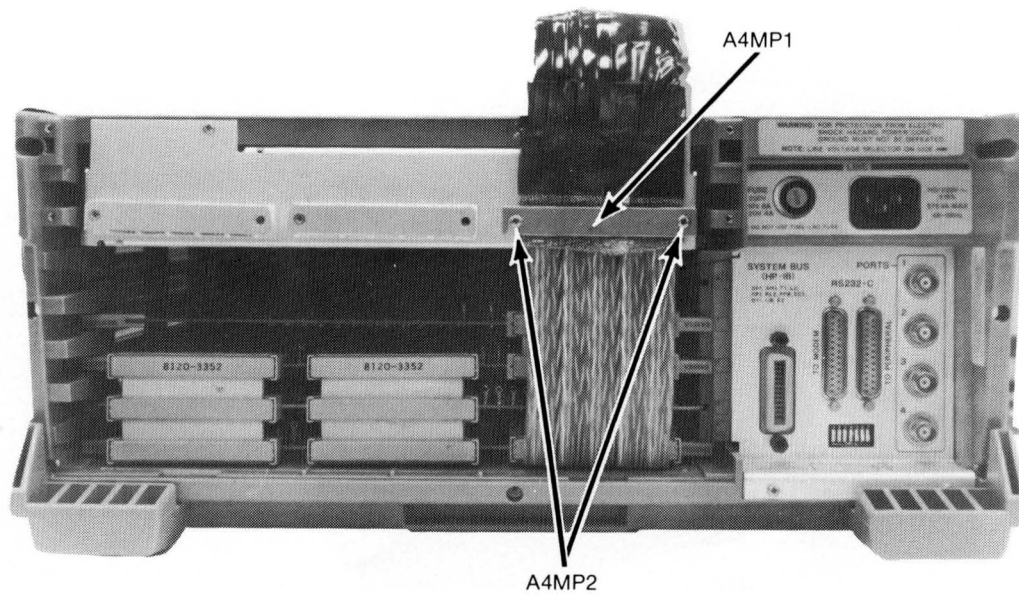

Figure 2-14. Ground Bar Clamp Installation (64110A)
1. Insert a screw (A4MP2) through the single hole end (NOT the slot end) of the ground bar clamp (A4MP1). Continue with the screw through the right most perforation of the emulator pod cable shield braid and the right most hole of the sheet metal in the rear of the mainframe. (Right most as viewed from the rear of the mainframe. Refer to figure 2-14 for details.)
2. Repeat the procedure with another screw; this time, use the slot end of the bar clamp and the holes in the shield braid and sheet metal immediately left of the right most position (refer to figure 2-14).